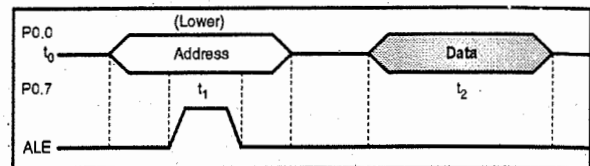

Fig. 1.17.3 : Multiplexed address / data bus
- If a logic 1 is written onto the address bit, then the upper FET will turn on and the lower FET will turn off providing a logic HIGH at the pin. If a logic 0 is written onto the address bit, then the upper FET will turn off and the lower FET will turn on providing a logic LOW at the pin. Once, the 8 bit address is been formed and latched by the Address Latch Enable (ALE) pulse into the external circuits, the bus turns around to data bus. Port 0 can now read data from the external memory. For reading data it must be configured as a input port. Fig. 1.17.3 shows multiplexed address / data bus.